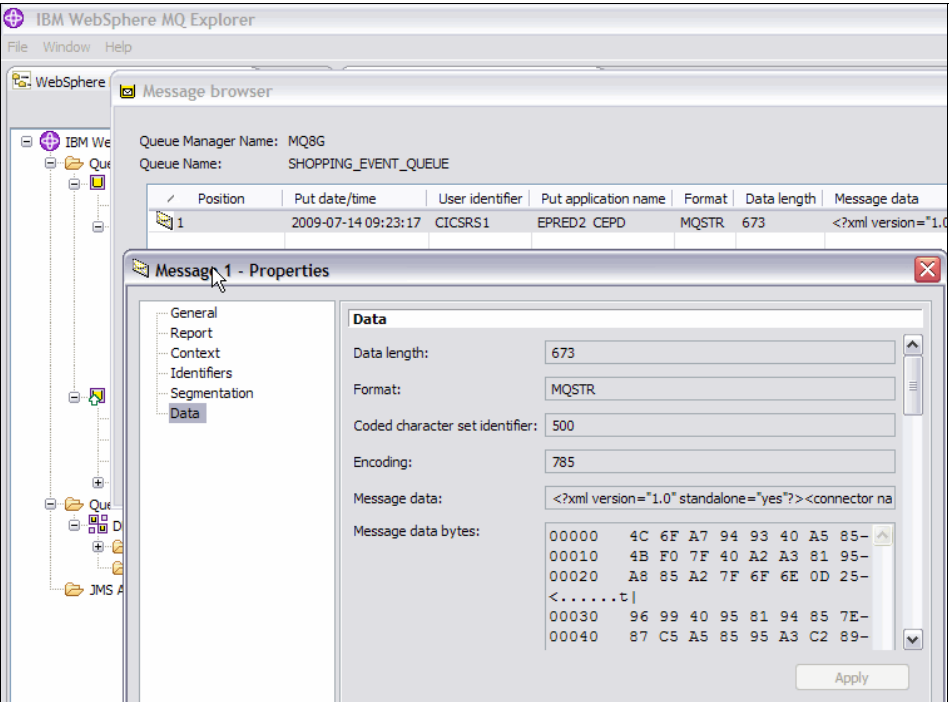

Figure 5-44 WebSphere MQ Explorer data view
4. In the properties window, click **Data** (Figure 5-44). We see the message shown in character and hex format.